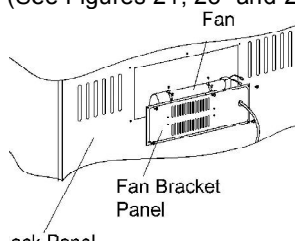

Figure 21- Fan Access
2. Mark or tag each wire removed for its exact reconnection. Remove the four screws from the fan, when installing, reverse the steps above. (See Figures 21, 23 and 24)